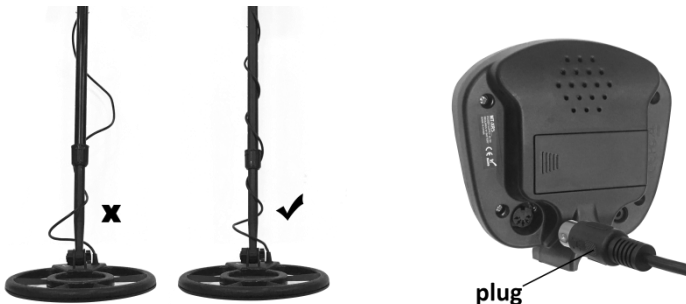

Fig.5
5. Wind the cable of the search coil around the aluminium stem, to allow moderate movement, avoid cable sway. Plug the cable connector into the lower right of the base of the control box, line up with the slot, and plug into the female connector (see Fig.5). Note do not pull the cable to remove, pull the plug.